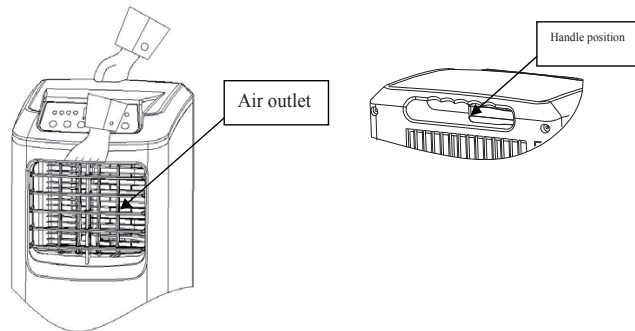

Figure 17
1). To handle or move the unit, hold the top of the air outlet of the front shell with one hand and the handle position at the top of the back shell with another hand, and leave the unit in the upright position. (As shown in Figure 17).